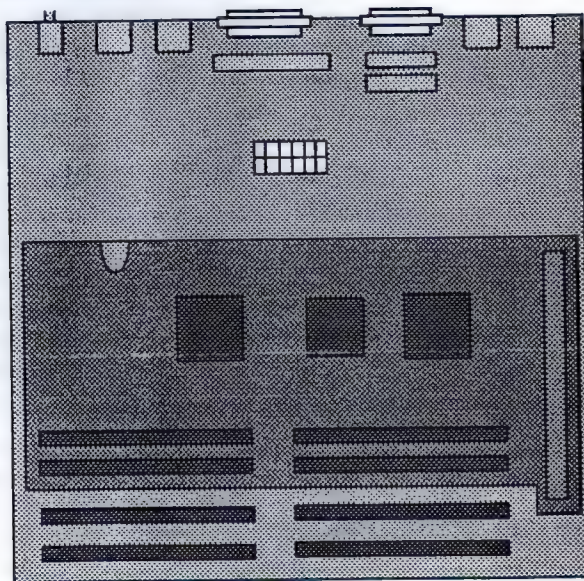

Figure 17: Positioning the NewLife Accelerator! on the Mac motherboard
You install the NewLife Accelerator! board on top of the Macintosh motherboard — as shown in Figure 17. The 96-pin connector on the bottom of the NewLife board attaches to the Mac SE expansion connector.
2. Position the NewLife *Accelerator!* board above the Macintosh motherboard as shown in Figure 17. Before you apply any pressure, look between the two boards and make sure all of the pins are aligned with the socket.